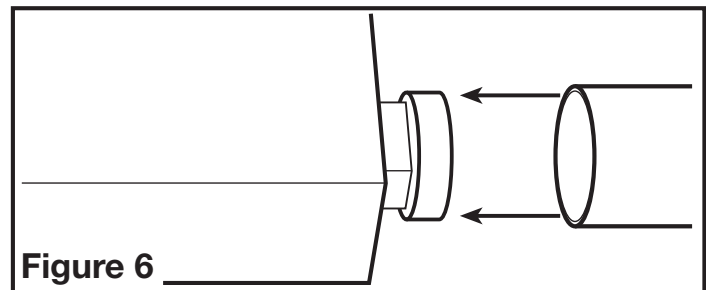

Figure 6
1. Remove any tape that might be holding the damper in place. Connect the ducting to the fan's duct collar (**Figure 6**) and secure in place using tape or screw clamp. Always duct the fan to the outside through a wall or roof cap.